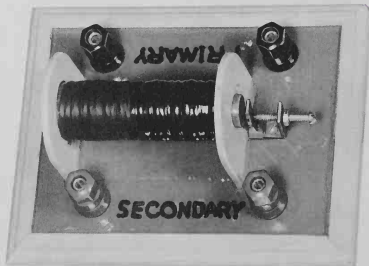

Fig. 18-26. An induction coil.
A project which has educational value is the induction coil, Fig. 18-26. Coils of this nature are widely used. One of the more common applications is the ignition coil in your automobile.
1. The induction coil illustrated in Fig. 18-26 has a plastic base. You may use wood if you wish.